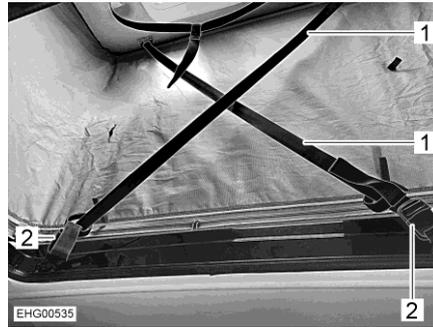

Fig. 43 Wind protection
- Pull out both retaining belts (Fig. 43,1) completely.
- Attach the retaining belts diagonally to the belt locks (Fig. 43,2).